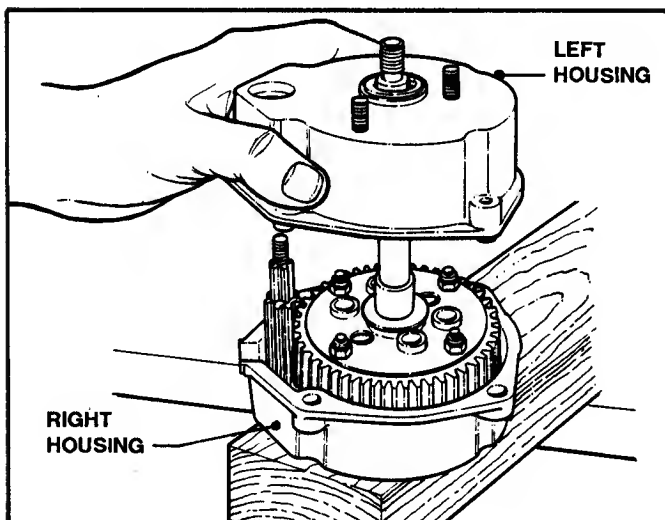

FIGURE 5.19
15. Guide Left Housing into position on Left Housing. See Figure 5.19.